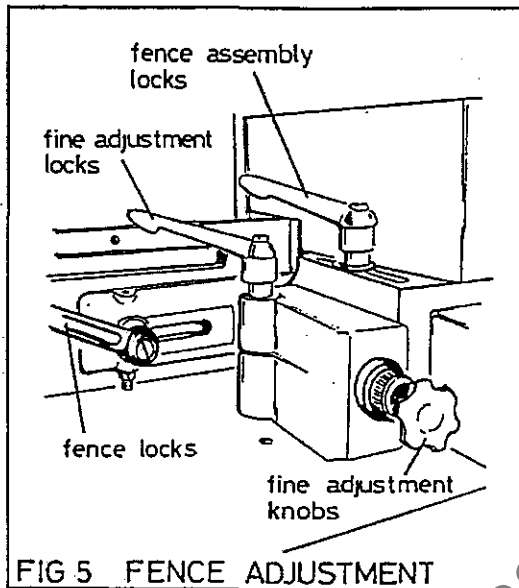
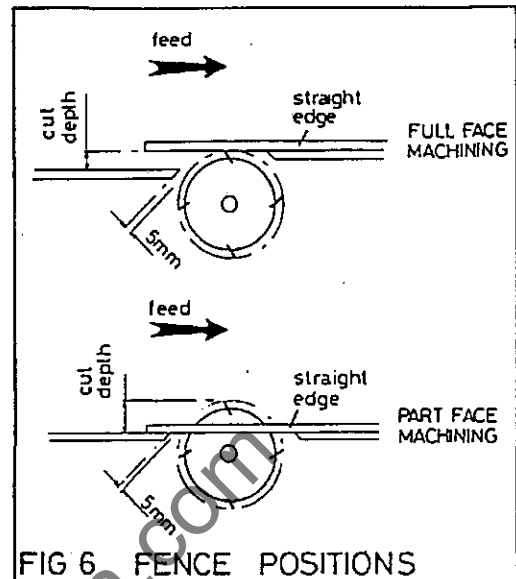

FIG 5 FENCE ADJUSTMENT
FIG 6 FENCE POSITIONS
### Straight Fence Adjustment (Fig 5, Fig 6)
- 3) To remove or replace the outer rings the fence locks have to be totally unscrewed and the fences removed (see Section 3- Straight fence adjustment Fig 5).